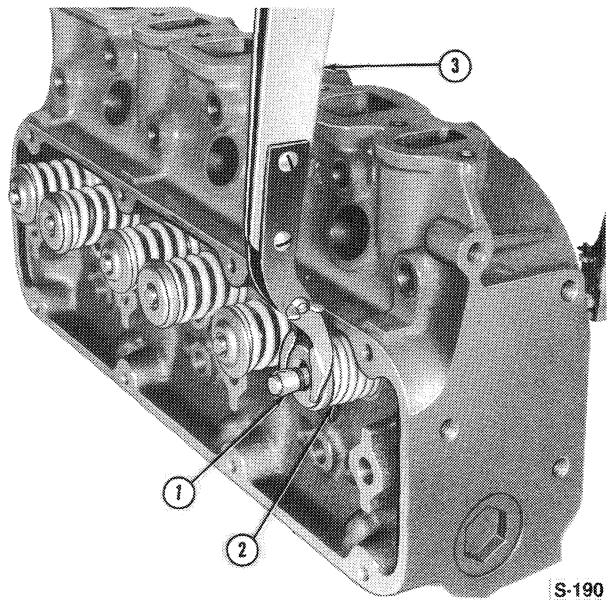
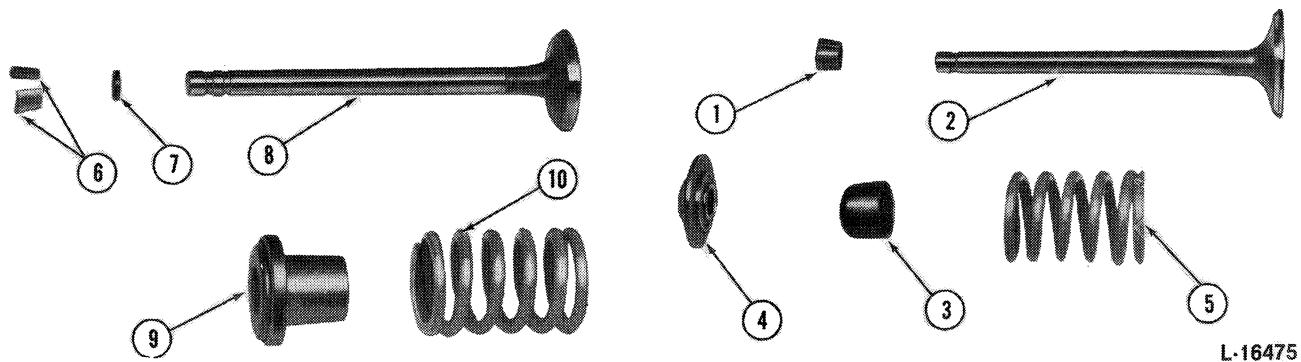

Figure 9
Figure 10
3. Using a valve spring compressor, Figure 9, remove the retainer locks, spring retainers or rotators, springs and seals from each valve, Figure 10.